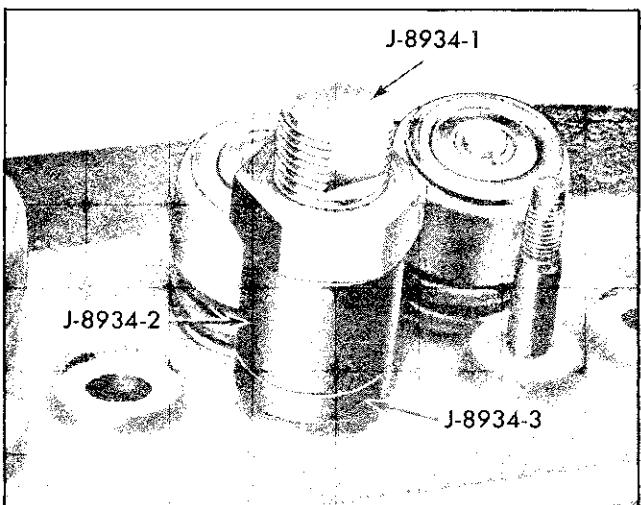

Fig. 6-88 Rocker Arm Stud Removal
8. Thread 7/8" standard nut on stud remover and turn nut until rocker arm stud is out of cylinder head (Fig. 6-88).